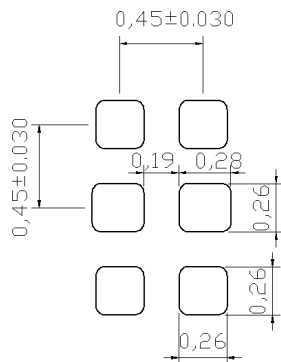

Figure 8
- ♦ The stencil opening size is recommended in Figure 8.